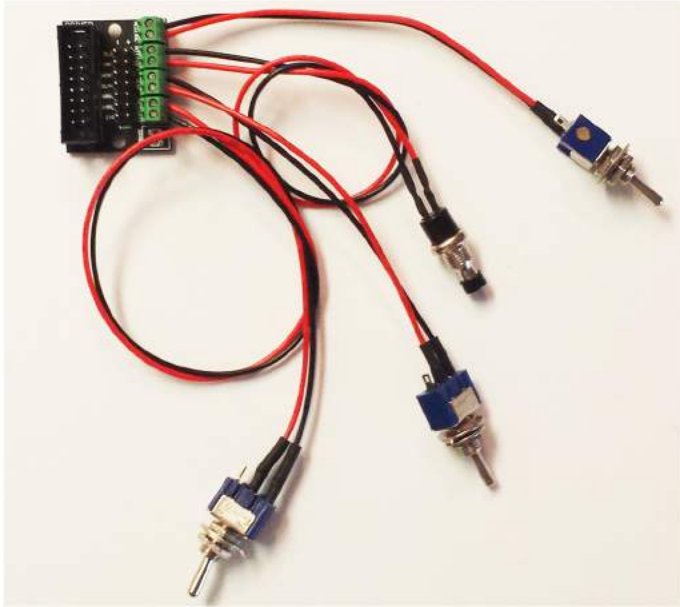

Figure 3-1 PDB Switch Connections
- Step 1) Using a small screwdriver, attach the 3 toggle switches and black pushbutton to the PDB as shown in Figure 3-1. Be sure to match the switches to the terminal blocks, as labeled on the board surface. The direction of the wires doesn't matter. Tighten the screws firmly down over the stripped wire ends.